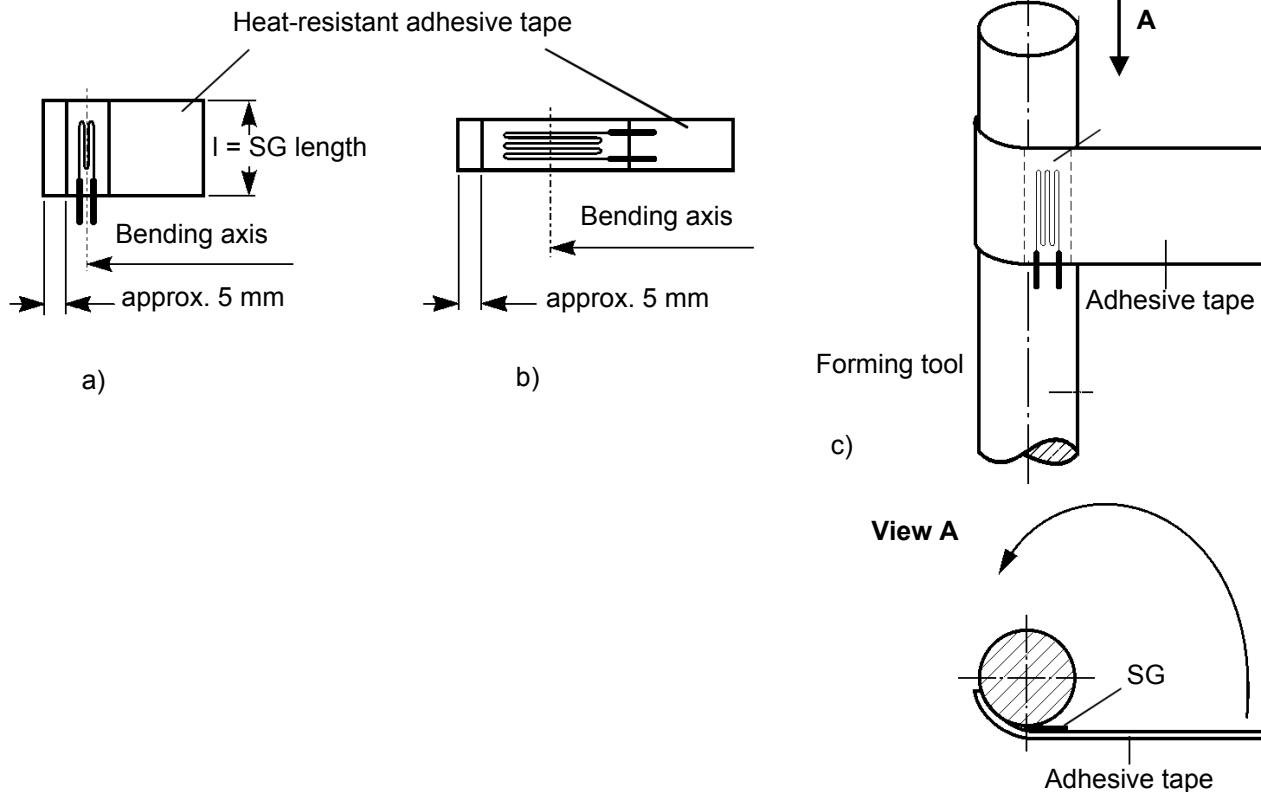

Fig. 2-3: Pre-forming method for brittle SG to fit small radii
- Place a temperature-resistant self-adhesive tape on the back of the SG (Fig. 2-3), e.g. the tape supplied with the EP250 and EP310 adhesive sets. Mask according to sketch a or b, depending on whether the bending axis is parallel or transverse to the SG. Cut adhesive tape along the SG edges to